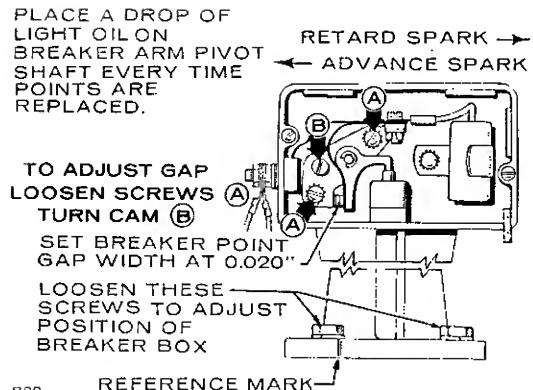

FIGURE 22. SETTING BREAKER POINTS
- Turn flywheel in a clockwise direction approximately 1/4 turn after top center (TC).
- To adjust gap, refer to Figure 22. Loosen screws (A) and turn cam (B) until point gap measures .020 inch with a flat thickness gauge. Retighten screws (A) and recheck gap.